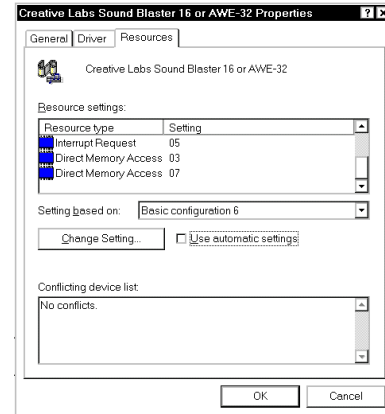

Figure 10, Sound Card Resources
7. Escape back to Device Manager, this time highlight a peripheral that occupies a resource that could be used by the AHA-1542CP card. Figure 10 uses the sound card as an example.